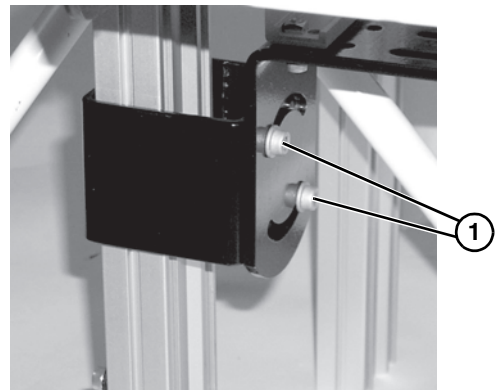

Figure 14
2. Remove two flange socket head screws (Figure 14, item 1) from the conveyor to be serviced.
- Tighten eight screws (**Figure 15, item 1**) to 130 in-lbs (15 N-m) and two flange socket head screws (**Figure 14, item 1**) to 24 ft-lb (33 N-m).